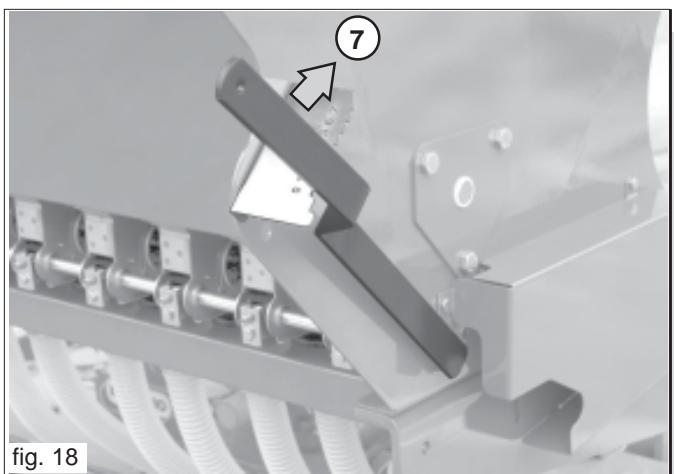

fig. 18
- for large quantities, it is advisable to use the crank on the transmission shift to rotate the agitator shaft to better control seed flow. To empty small amounts of seeds, shift the doser lever beyond position 7 (Fig. 18).